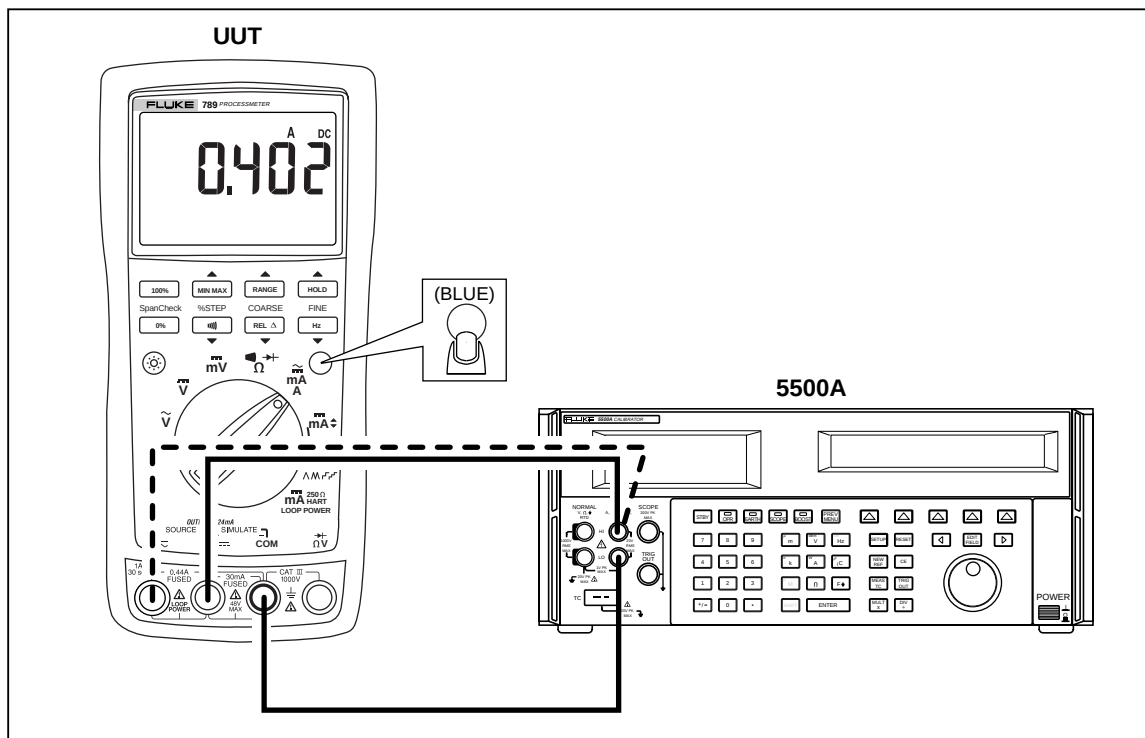

Figure 4. Current Measurement Test Connections
3. Connect the calibrator to the **COM** and $\tilde{mA}$ terminals on the UUT as shown in Figure 4.